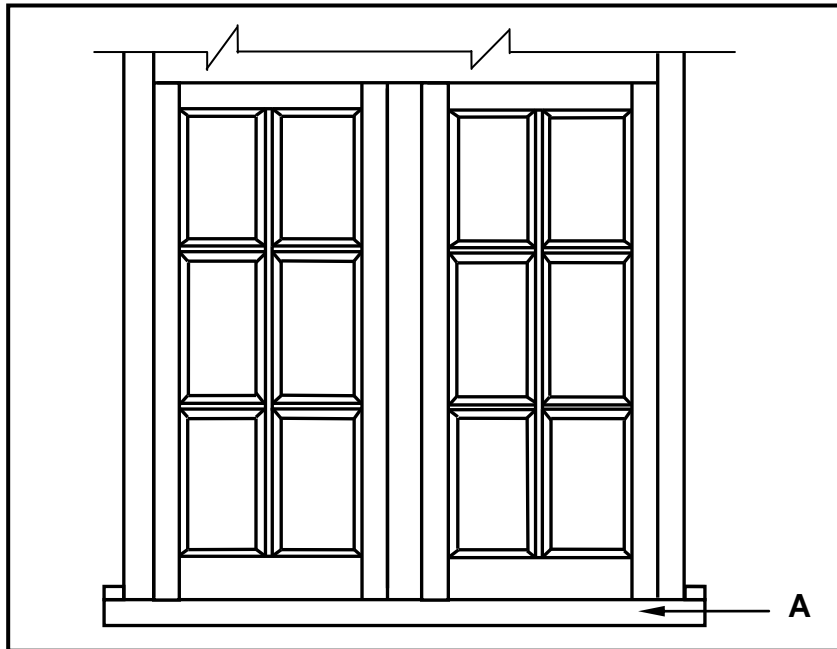

FIGURE 3.4
- 3.4 FIGURE 3.4 below shows an external elevation of an incomplete casement. The casement can be extended by placing a new part on top of the existing casement. Study the picture and answer the questions that follow.